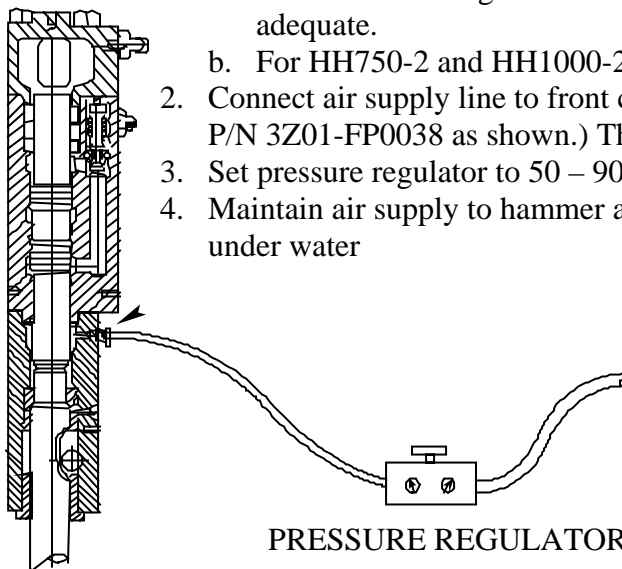

Figure 3. Air Compressor Supply
6. Do not submerge the hammer in water. The hammer is not watertight, and damage can occur if used in this manner. Consult your dealer for underwater applications (Ref. Figure 3.)